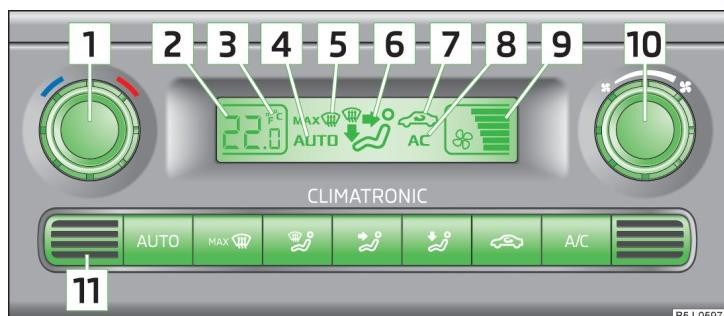

Fig. 97 Climatronic: Control elements
Do not stick anything on or cover the interior temperature sensor  » Fig. 97; it could have an unfavourable effect on the Climatronic system.
- › Press the **AUTO** button » Fig. 97 on page 91; **AUTO** will appear in the display.
- › Turn the control dial  » Fig. 97 on page 91 to the left or to the right to increase or decrease the temperature.
The information appears in the display in the desired temperature unit (no. **3** » Fig. 97 on page 91).
- › Press the  button » Fig. 97 on page 91.
- › Press the  button » Fig. 97 on page 91 again.
- › Turn control dial  » Fig. 97 on page 91 to the left or to the right to increase or decrease the blower speed.
The blower speed set is indicated by displaying the corresponding number of segments in icon 9 » Fig. 97 on page 91 in the display.
- › Press the MAX ϖ button » Fig. 97 on page 91.
- › Press the MAX ϖ button » Fig. 97 on page 91 again or press the AUTO button.